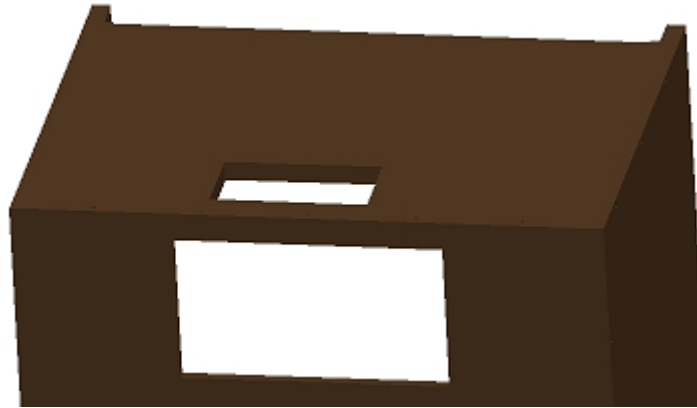

Fig. 2.2 TOP EXHAUST CUTOUT
- If top exhaust, cut another rectangular opening at the top of the cabinet to the length and width of the top exhaust (see Fig.2.2 & 2.3).